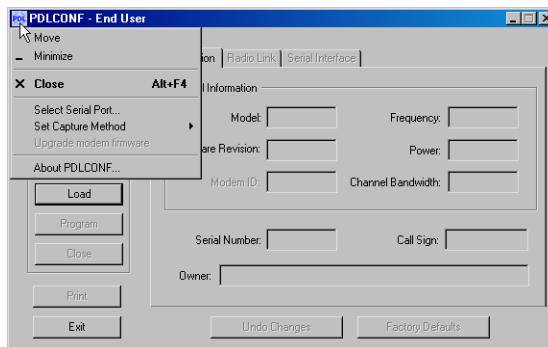

Figure 2-25. PDL Top Left Corner Icon Menu
7. Click the Pacific Crest logo in the upper left corner of the main screen (Figure 2-25).